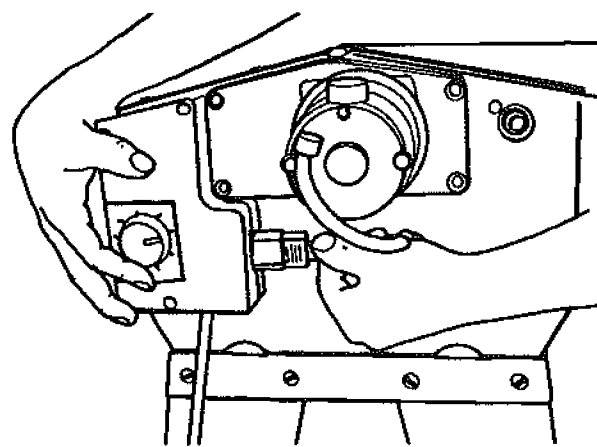

Fig. 46
57. Plug in the feed motor's cord into the **side** of the control box, as shown in Fig. 46.